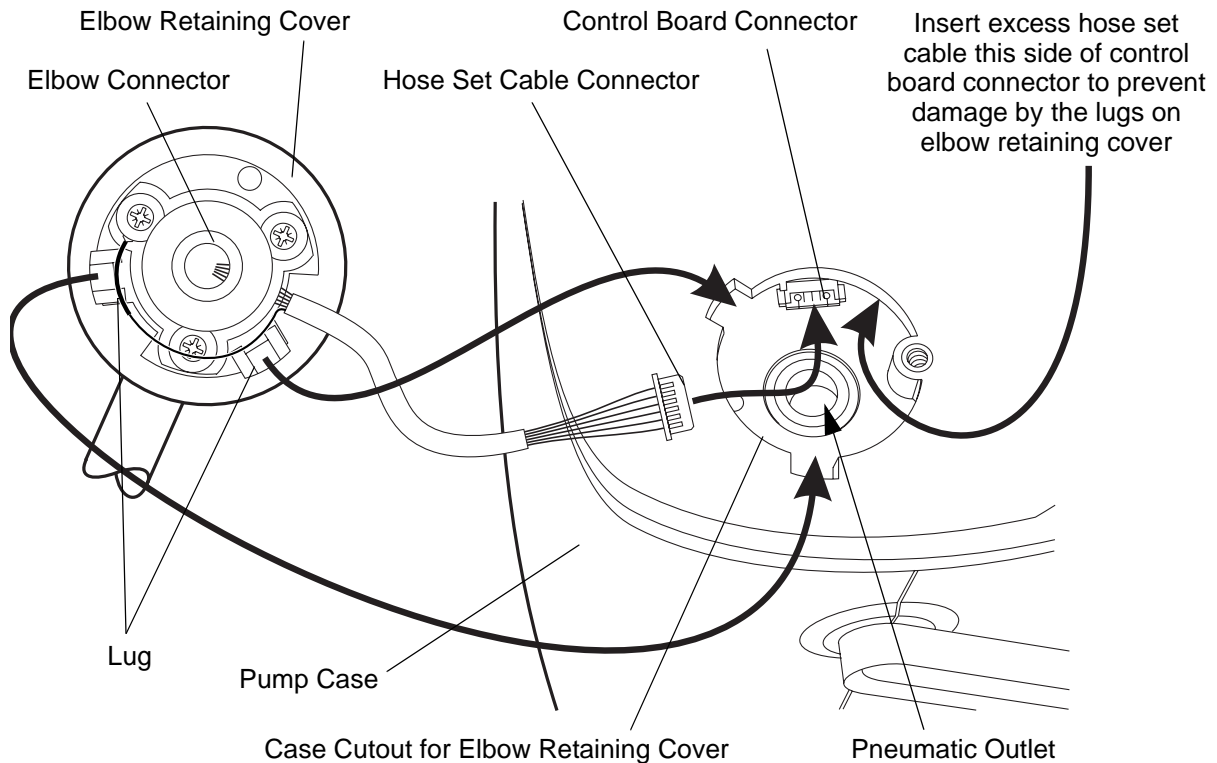

Figure 37 - Installing the Hose Set Connectors
- 8.5 Disconnect the hose set cable connector from the 6-way connector on the control board assembly in the pump (Refer to Figure 37), and remove the hose set assembly from the pump.
- 9.4 Carefully insert the excess hose set cable inside the pump case, between the control board connector and the threaded pillar (Refer to Figure 37).
Note: Make sure the two lugs on the elbow retaining cover are aligned with the correct slots in the cutout in the pump case (Refer to Figure 37).